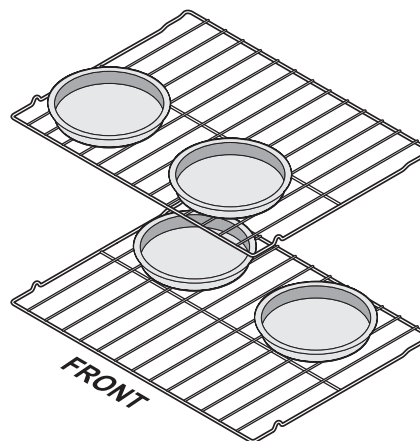

Figure 9: Suggested pan placement for best results
- When baking cakes using two oven racks place bakeware in positions 3 and 5 and place bakeware as shown in Figure 9.